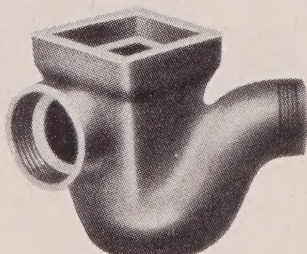

Fig. 93B.
N.B.—If two horizontal inlets are required, order Fig. 93BC ;